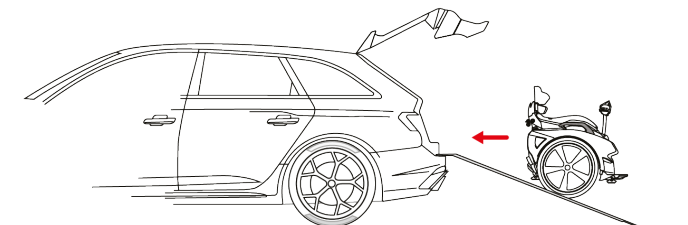

Figure 8.5 - Loading GENNY on board a vehicle - loading ramps
3. Accompany GENNY down the ramps and into the vehicle (Figure 8.5)